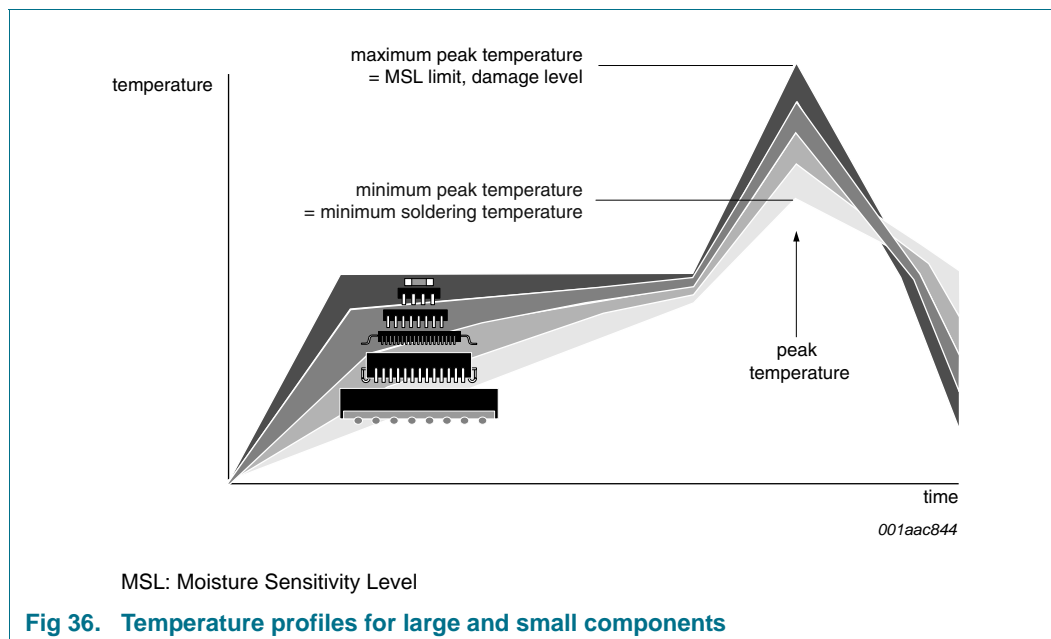

Fig 36. Temperature profiles for large and small components
- Lead-free versus SnPb soldering; note that a lead-free reflow process usually leads to higher minimum peak temperatures (see Figure 36) than a SnPb process, thus reducing the process window
Studies have shown that small packages reach higher temperatures during reflow soldering, see Figure 36.